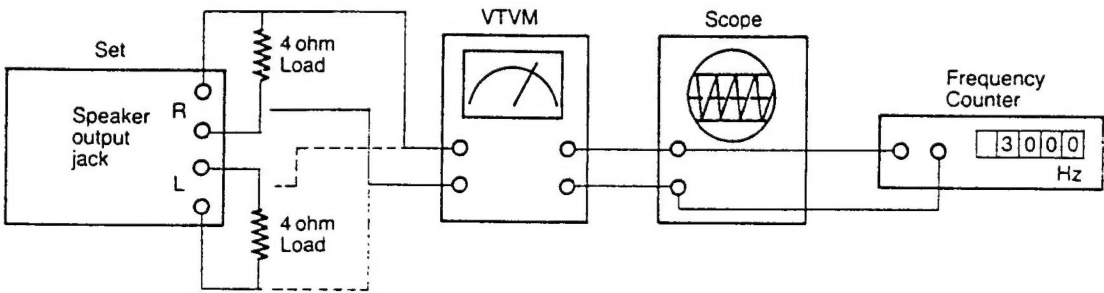

Figure 6
- a. Play a standard test tape recorded with 3 kHz signal (or 1 kHz). (Equipment connection: See Figure 6.)
- a. Play a standard test tape recorded with 8 kHz signal such as TEAC MTT-113CN. (See Fig. 6)